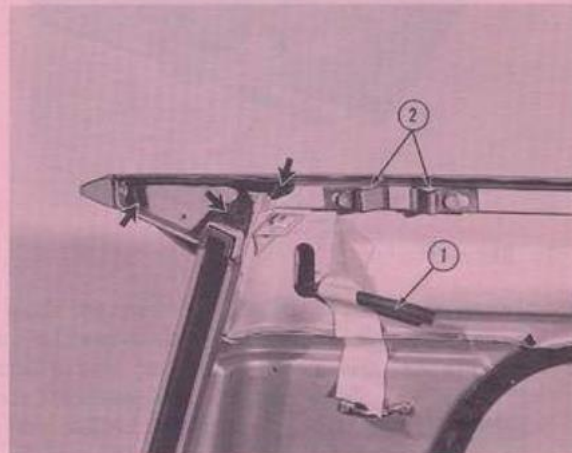

Fig. 2
16. Adjust front and rear sliding roof stops to provide proper locking alignment. The stops (2, Fig. 2) should be adjusted to permit the locking roller tapered bracket to enter between the stops and align the roof panel fore and aft to allow the tailgate window to enter the top channel in the sliding roof panel.
6. Disconnect the track drain hoses from the left track and secure with tape. (See Fig. 2.)
17. Remove the roof side panel ends and seal the panel edges as shown. (See Fig. 2 - sealer indicated by the arrows.)